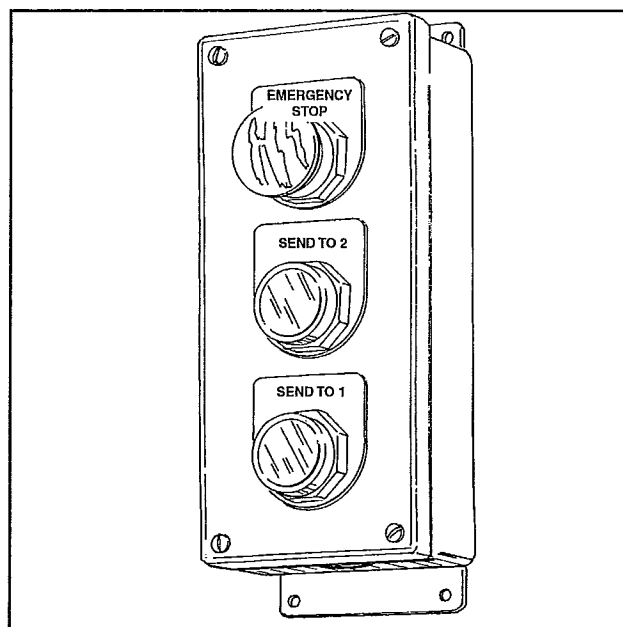

Figure 18
- If an emergency occurs when the carriage is moving, push the EMERGENCY STOP button. The button will keep the lift inoperative until the button is pulled back out. See Figure 18.